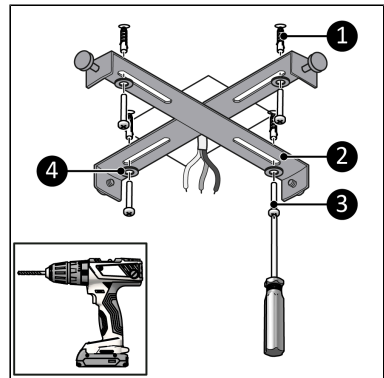

Figure 21.
4. Place the plugs in the four holes (Figure 21, pos. 1).
5. Use the Phillips screws (Figure 21, pos. 3) and the rings (Figure 21, pos. 4) to attach the suspension bracket (Figure 21, pos. 2) to the ceiling.